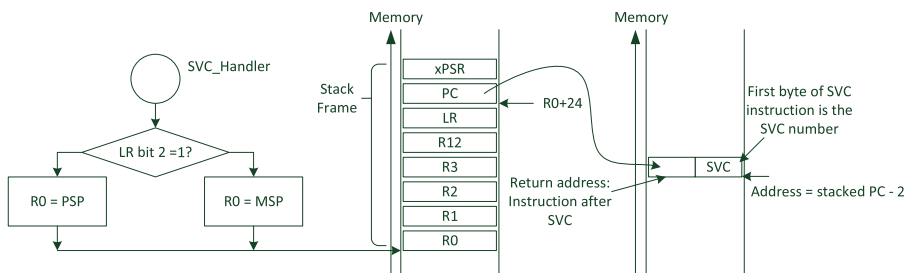

FIGURE 10.5
When the SVC handler is executed, you can determine the immediate data value in the SVC instruction by reading the stacked Program Counter (PC) value, then reading the instruction from that address and masking out the unneeded bits. However, the program that executed the SVC could have either been using the main stack or the process stack. So we need to find out which stack was used for the stacking process before extracting the stacked PC value. This can be determined from the link register value when the handler is entered (Figure 10.5).